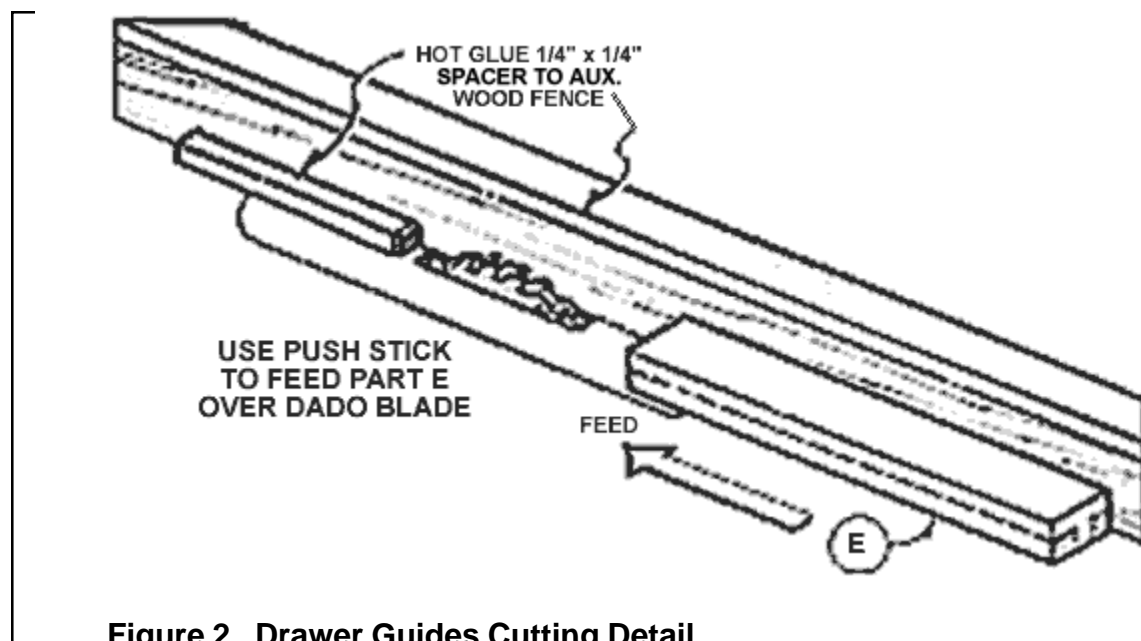

Figure 2. Drawer Guides Cutting Detail
Step 4: Mill and Screw in the Drawer Guides (D)
1. Select any type of wood to make the drawer guides (D).
3. Place a slotted screw hole at one end to allow for movement in the sides (B).
4. See **Figure 2** for cutting detail on how the drawer guides are milled.